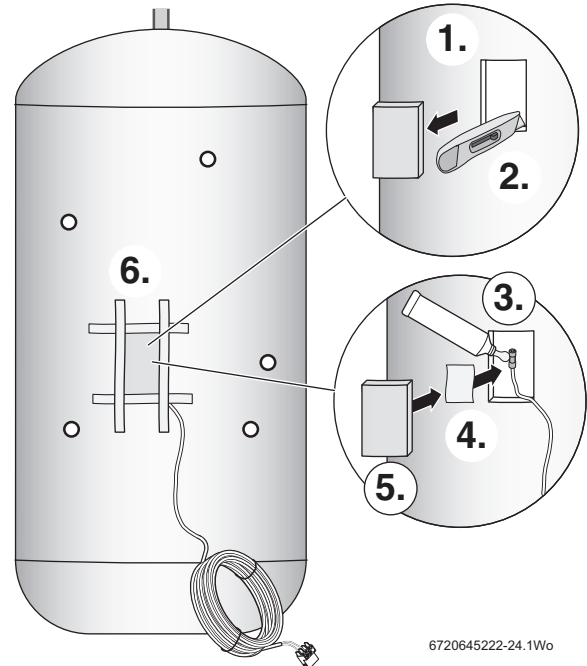

Fig. 15 Sensor connection to cylinder
**NOTICE:** Figure 15 applies only to foam covered open vent cylinders.